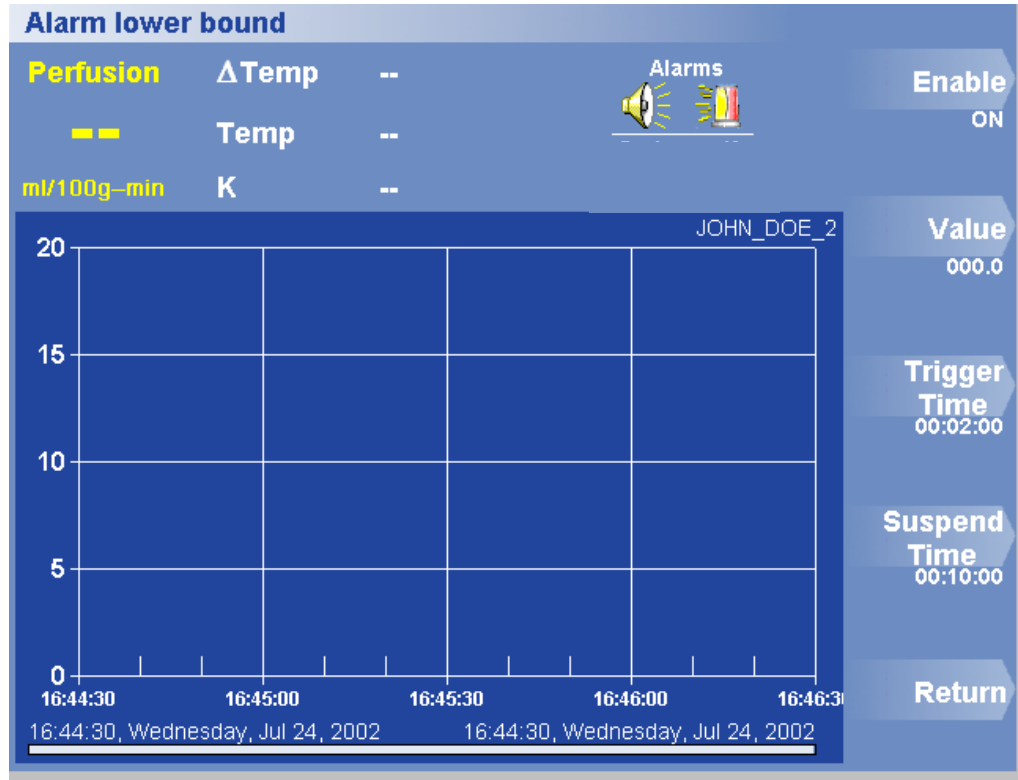

Figure 30. Alarm Lower Bound Menu
2. Press Lower Bound. The Alarm Lower Bound menu appears (Figure 30).